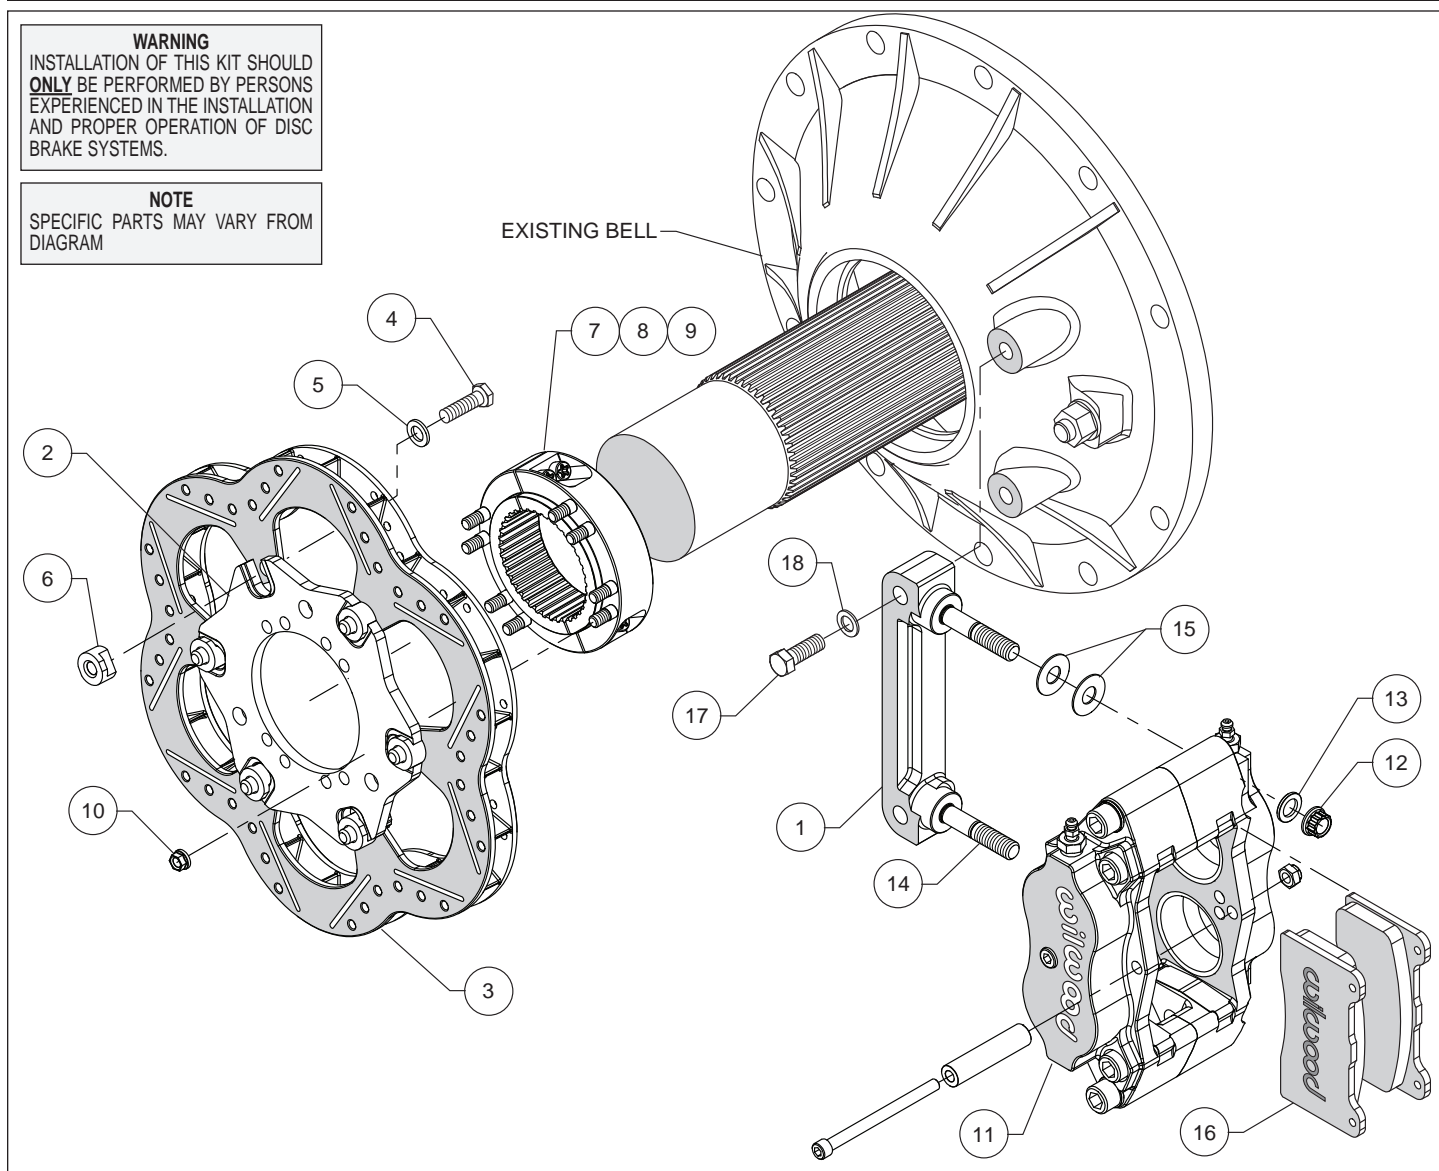

Figure 1. Typical Installation Configuration
- Orient the bracket (1) as shown in Figure 1, and install using bolts (17), and washers (18). Temporarily tighten the mounting bolts. **NOTE:** The bracket must fit squarely against the mount bosses on the bell. Inspect for interference from casting irregularities, machining ridges, burrs, etc. Remove the bracket mounting bolts one at a time, apply red *Loctite*® 271 to the threads, and torque to 35 ft-lb.
- Orient the rotor adapter (2) and the rotor (3), as shown in Figure 1 and attach using bolts (4), washers (5), and t-nuts (6), Figure 1. Apply red *Loctite*® 271 to the bolt threads before installing. Finger tighten. After all t-nuts have been installed, torque bolts in an alternating sequence to 220 in-lbs. Please refer to Wilwood's data sheet DS-669 (available at www.wilwood.com/Pdf/DataSheets/ds669.pdf) for complete t-nut bolt kit installation instructions.
- Orient the axle clamp assembly (7, 8 and 9, pre-assembled) as shown in Figure 1 and install onto the rotor adapter (2) using nuts (10). Tighten nuts part way while still allowing clamp-to-rotor movement. The nuts will be torqued later, after aligning the rotor. **NOTE:** *The axle clamp should be positioned inside of the rotor as shown in Figure 1, not offset, or outside of the rotor adapter.*
- Lubricate the caliper mounting studs (14) with lightweight oil. Initially place two .035" thick shims (15) on each stud as shown in Figure 1. Mount the caliper (11) onto the bracket (1) using lock nuts (12) and washers (13), Figure 1. Temporarily tighten the lock nuts and view the rotor through the top opening of the caliper. The rotor should be centered in the caliper. If not, slide the rotor/adapter assembly on the axle until the rotor is centered in the caliper. Tighten the clamp bolts (9) first, locking the clamp to the axle. Torque nuts (10) to 140 in-lbs.
- Remove the caliper center bridge pad retainer bolt, nut, and tube from the caliper. Insert the brake pads (16) into the caliper, with the friction material facing the rotor. Check that the top of the brake pad is flush with the outside diameter of the rotor. If not, adjust by adding or subtracting shims (15) between the caliper and the bracket. After the caliper pad height is set, torque the caliper lock nuts (12) to 30 ft-lb. Secure the brake pads in place with the center bridge pad retainer tube, bolt, and locknut. The locknut should be snug without play in the bolt or tube. Be cautious not to over tighten.